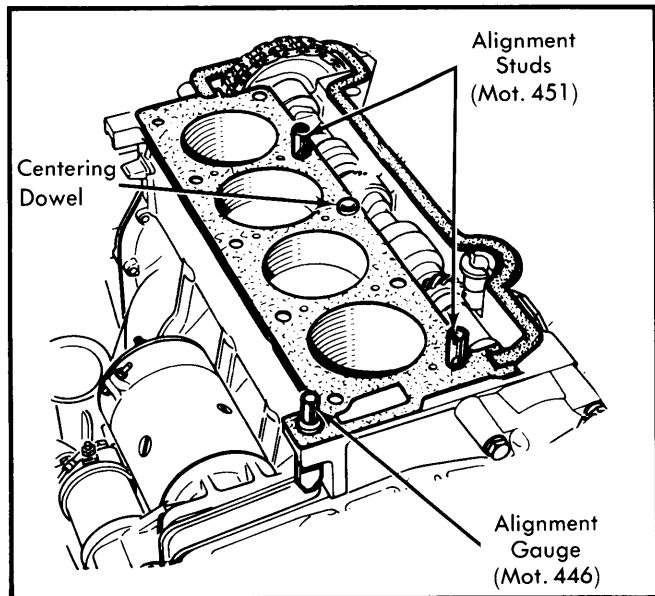

Fig. 2 Alignment Gauge, Studs and Centering Dowel Positioning
2) Remove liner clamp. Ensure centering dowel and distributor drive gear are properly positioned in cylinder block. See Camshaft and Timing Chain in this Article. Position cylinder head gasket. See Fig. 2.
3) Screw alignment studs (Mot. 451) into indicated positions until ball makes contact with cylinder head gasket. Install lifter chamber gasket, ensuring ends do not overlap with cylinder head gasket. Place alignment gauge (Mot. 446) in cylinder block hole. See Fig. 2.